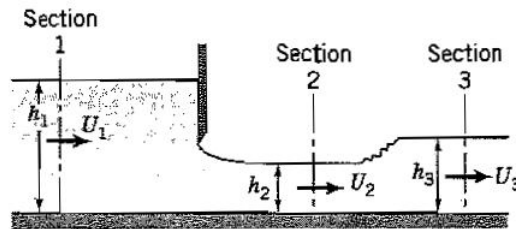

Figure P10.50
10.50 Consider the steady flow of water under the sluice gate shown in Figure P10.50. The velocity of the flow at sections 1, 2 and 3 is independent of depth, and the streamlines